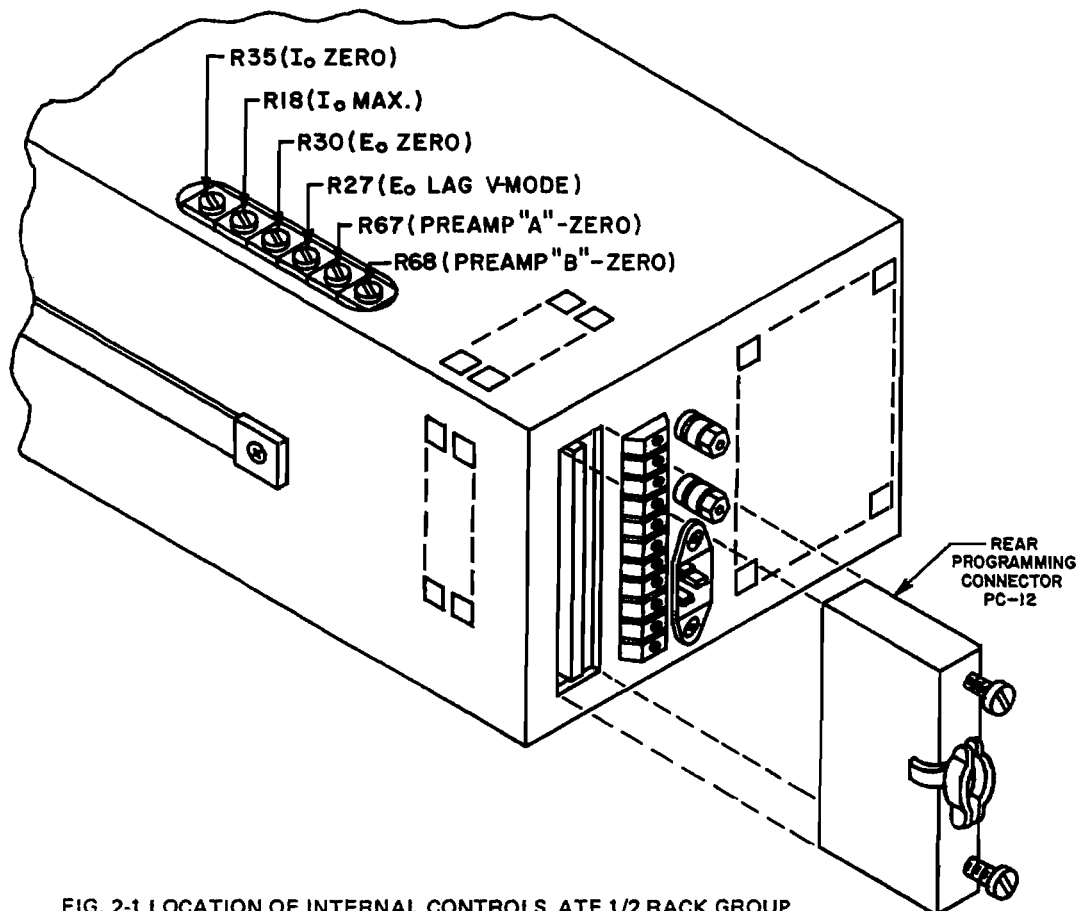

FIG. 2-1 LOCATION OF INTERNAL CONTROLS, ATE 1/2 RACK GROUP.
- c) INTERNAL CONTROLS: Refer to FIG. 2-1 and Table 2-1.
2-19 LAG NETWORK ADJUSTMENT. The ATE power supply operating in the "fast" mode, is dynamically stabilized by means of an internal lag network (E_o LAG, R27, see FIG. 2-1 for location). This control should be adjusted, for each application, by monitoring the load with an oscilloscope and turning the LAG control for best output response and maximum dynamic stability under all operating conditions.